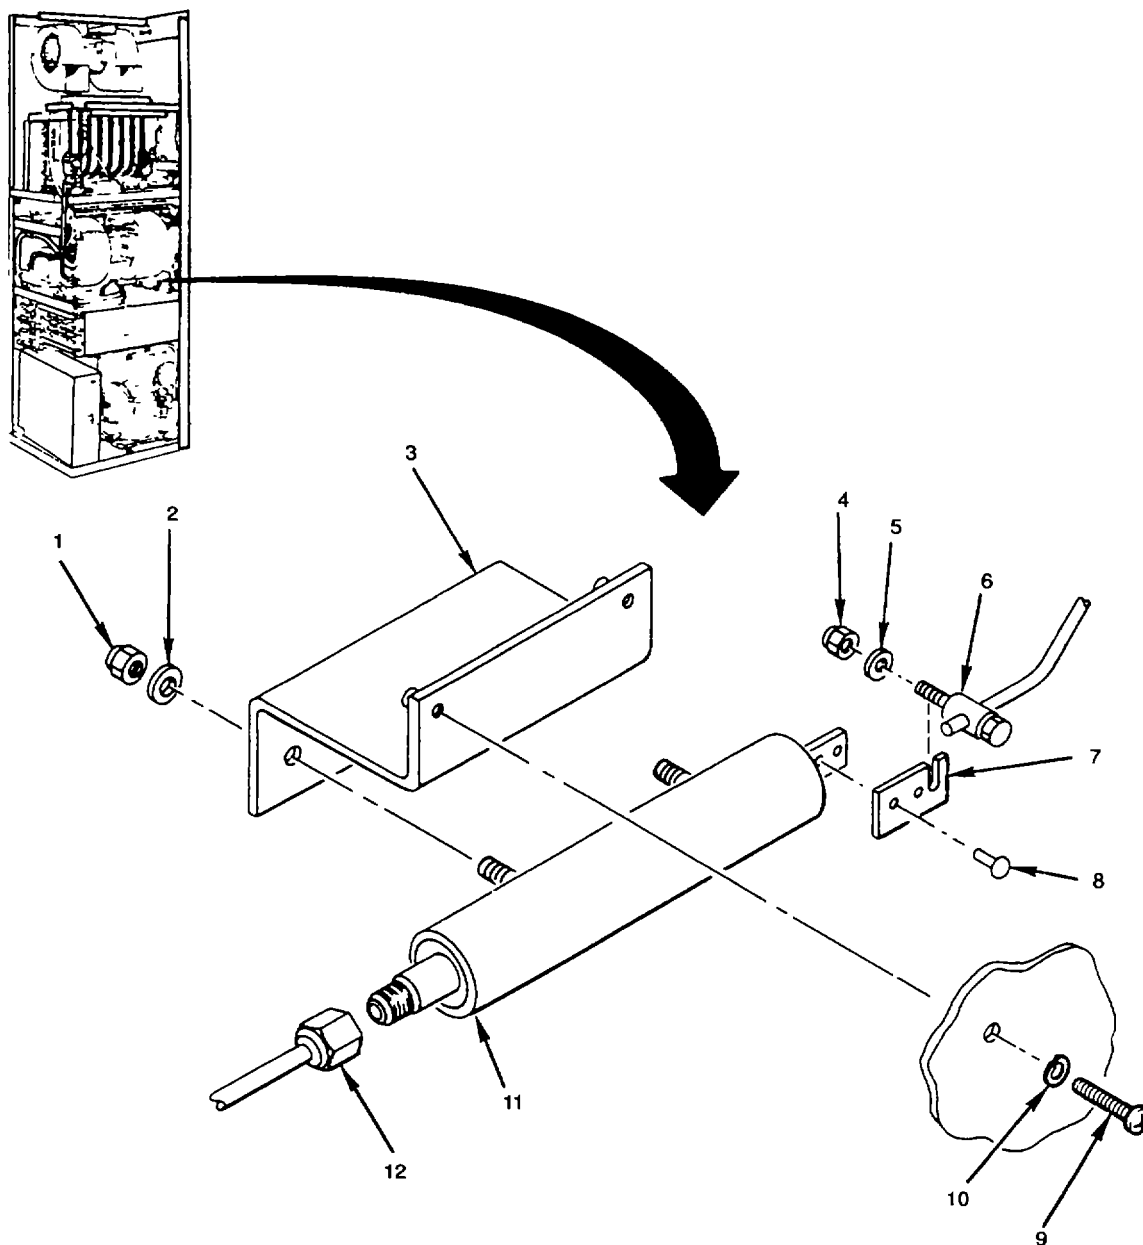

Figure 5-24. Damper Actuator
- a. Check for damaged or missing parts (see fig. 5-24). b If a leak is suspected or indicated' test per paragraph 5.13